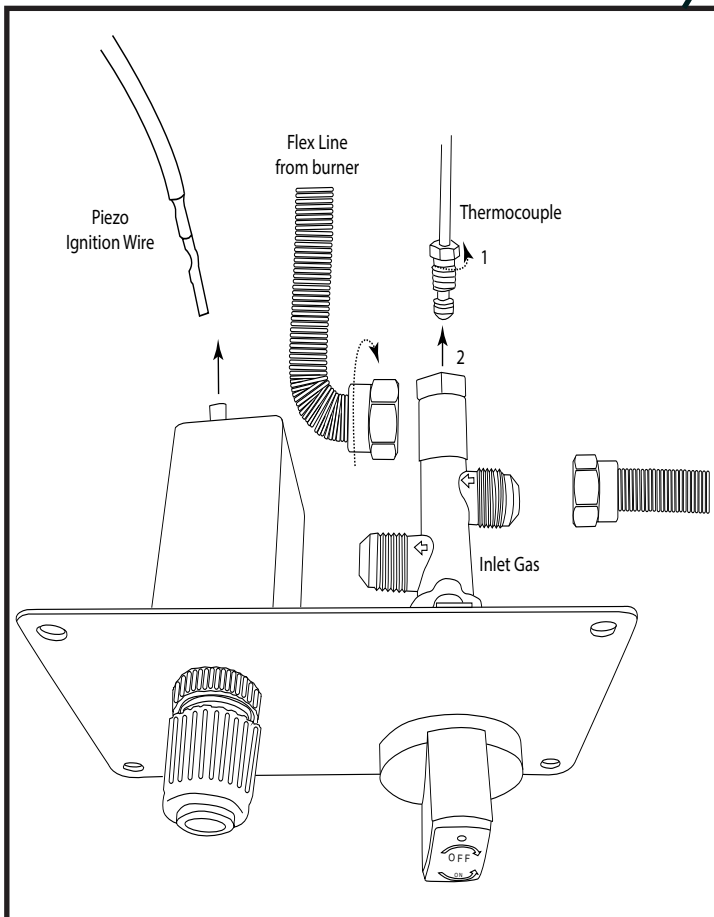

Fig. 7 Removing knobs from control panel.
Step 1: Remove the burner pan from the carton and install the inlet gas line to the gas valve. See Fig. 7.
Step 2: Pull the control knob off of the gas valve located on the control panel. See Fig. 7.
Step 3: Remove the black cap with red button off of the Piezo ignitor from the control panel. See Fig. 7.
Fire pit won't stay lit	1. Check alignment of thermocouple over rain shield on page 10, Fig. 7. 2. Ensure thermocouple is not screwed too tight into gas valve. It should be finger tight plus a quarter turn with a wrench. 3. Ensure thermocouple is clean and free of any debris. Excessive soot can be an issue.